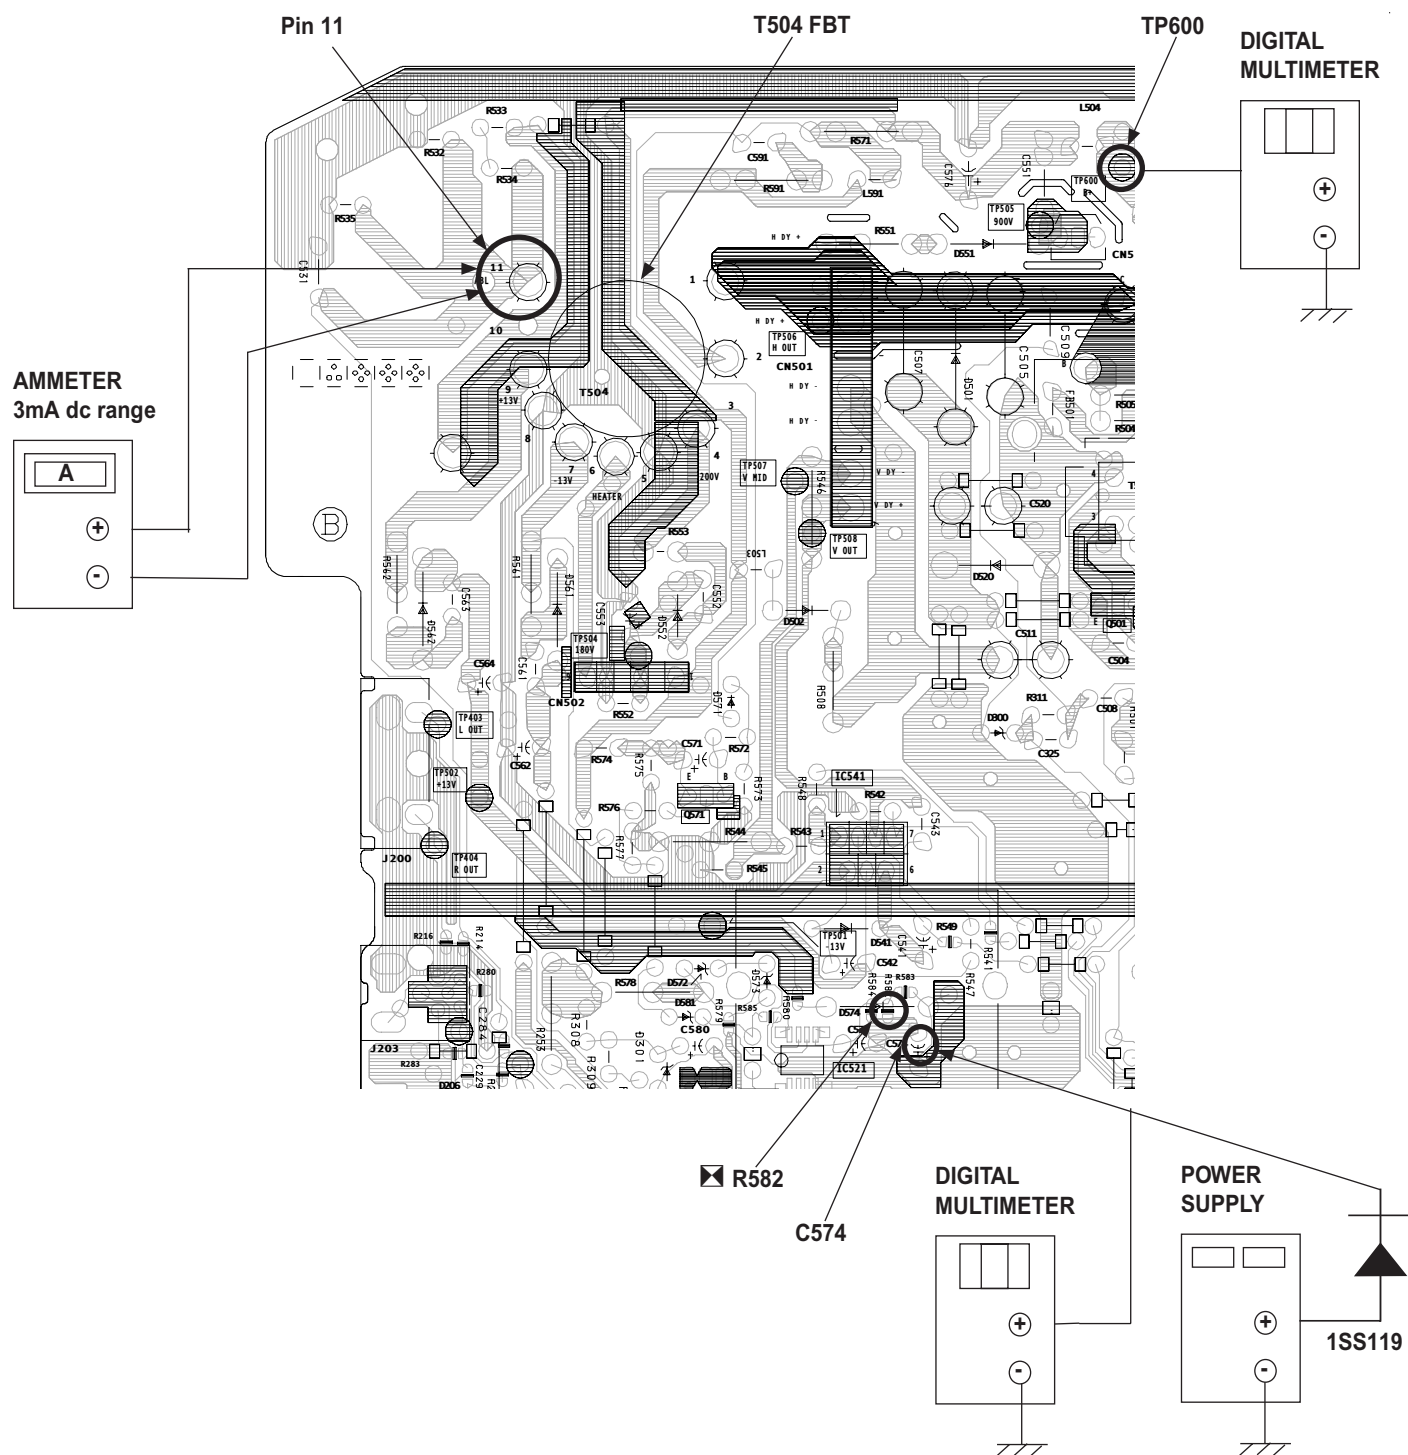

Figure 1
1. Connect the current meter between Pin 11 of the FBT (T504) and the PWB land where Pin 11 would normally attach (See Figure 1 on the next page).
4. Connect the digital voltmeter and the DC power supply via Diode 1SS119 to C574 (+) and ground (See Figure 1 on next page).